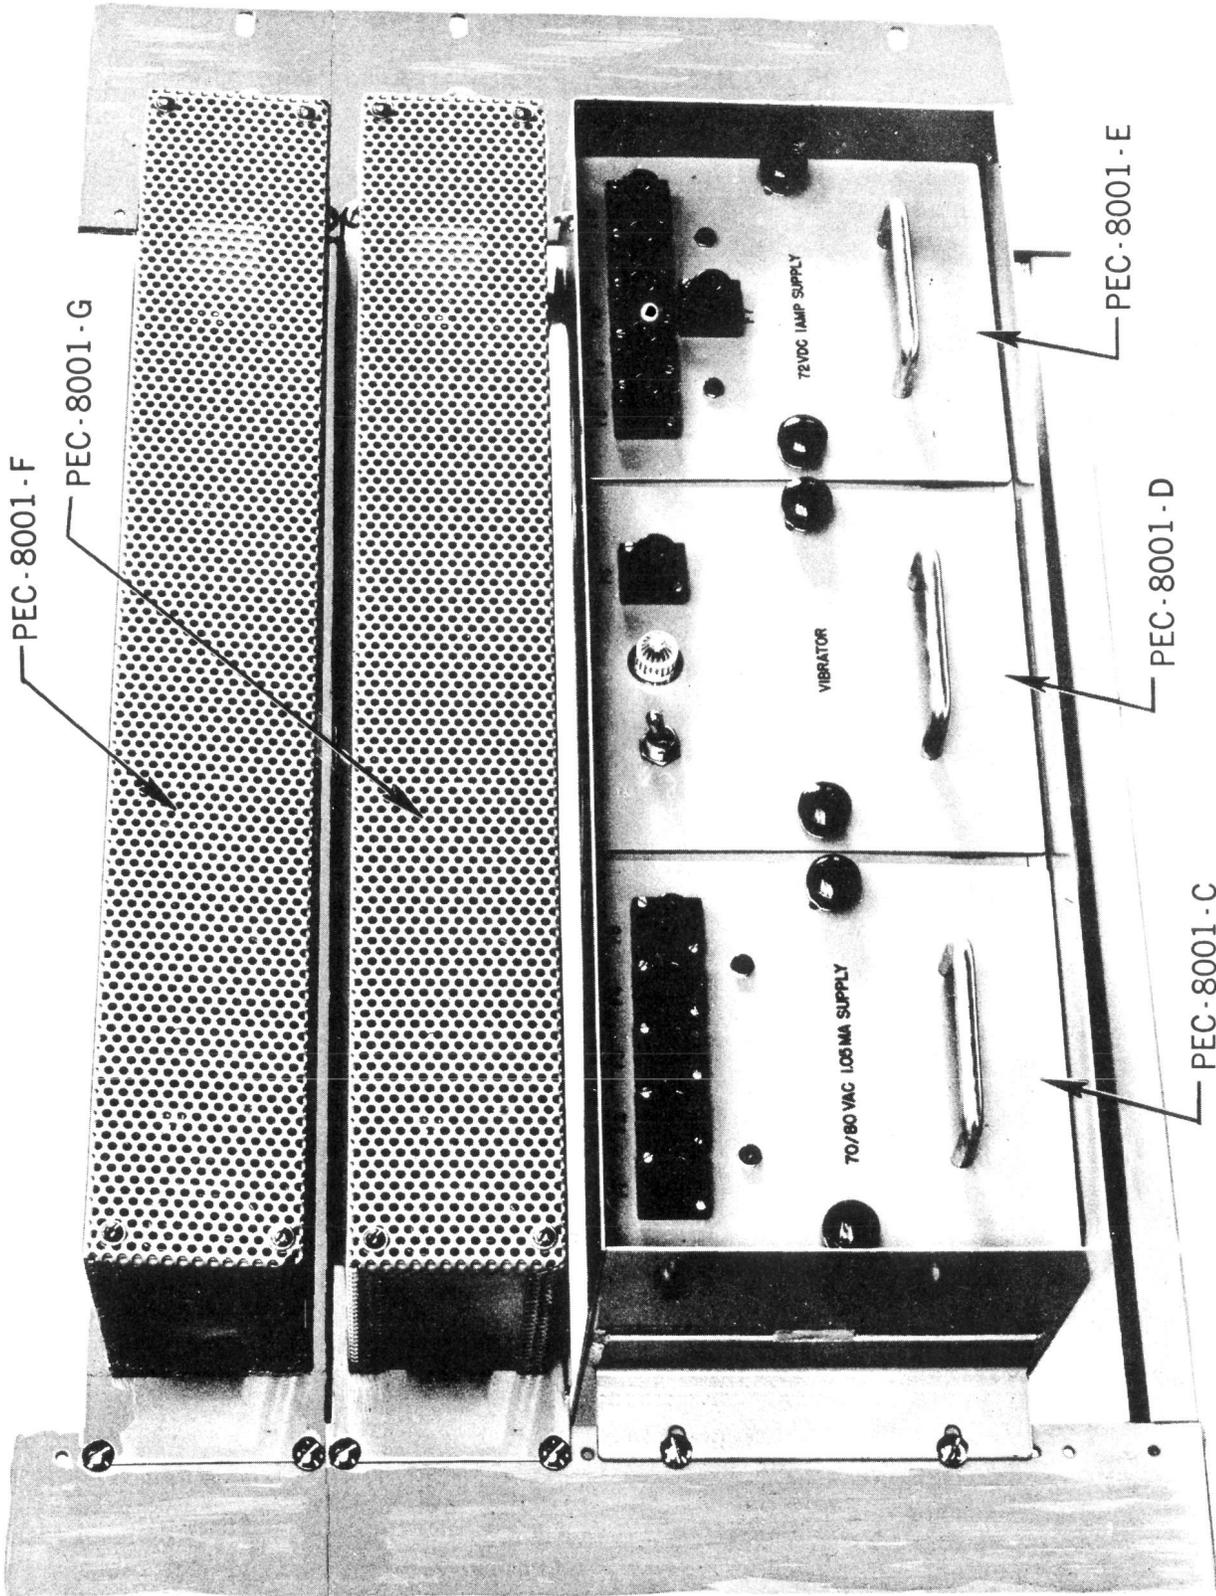

Fig. 1 - Power Supply, Front View
1.04 As shown in Fig. 1, the assemblies, with the exception of the filter assemblies, are contained in drawer-like units. By turning the knurled knobs counterclockwise to unlock them, the units can be withdrawn. Serial numbers 1 through 300 may be withdrawn part way with the wiring connected or completely with the wiring disconnected. Serial numbers 301 and up have a type wiring harness that has approximately two feet of slack cable which permits removal completely with the wiring still connected.